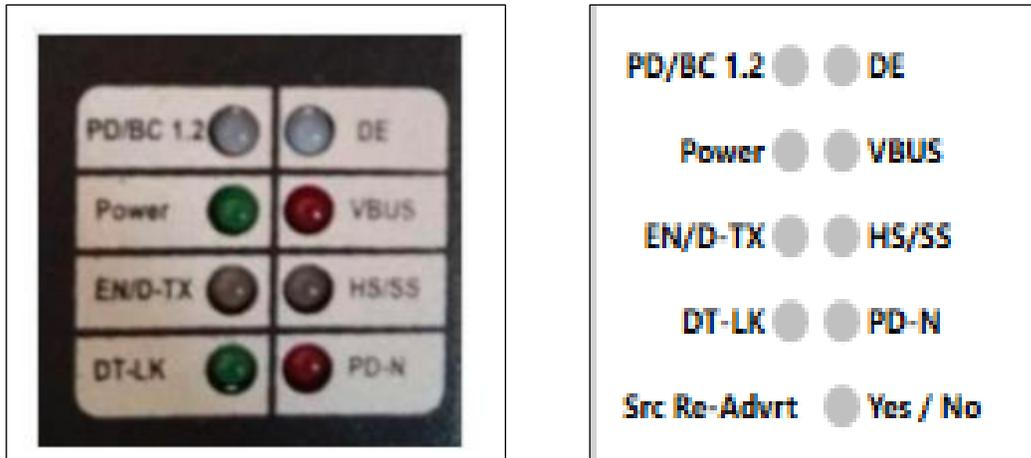

Figure 18. Observe LED's in GRL-USB-PD-TC Tester Card
- Observe the LED's in the GRL-USB-PD-TC tester card after connecting the Device as shown in Figure 18 below.